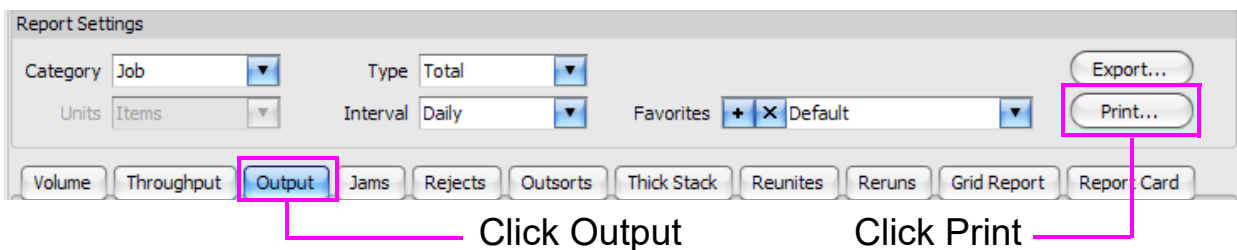

Figure 5-45: Report Settings buttons
2. Click one of the Report Settings buttons, such as the **Output** button (Figure 5-45).